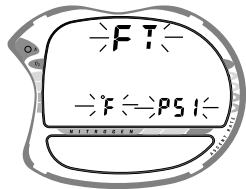

Fig. 23 - Set Units of Measure
- Press and release the Advance (Front) button, the Units screen appears with the graphics **FT** (or M), and the Temperature icon and letter **F** (or C), and **PSI** (or BAR) appear flashing (Fig. 23).